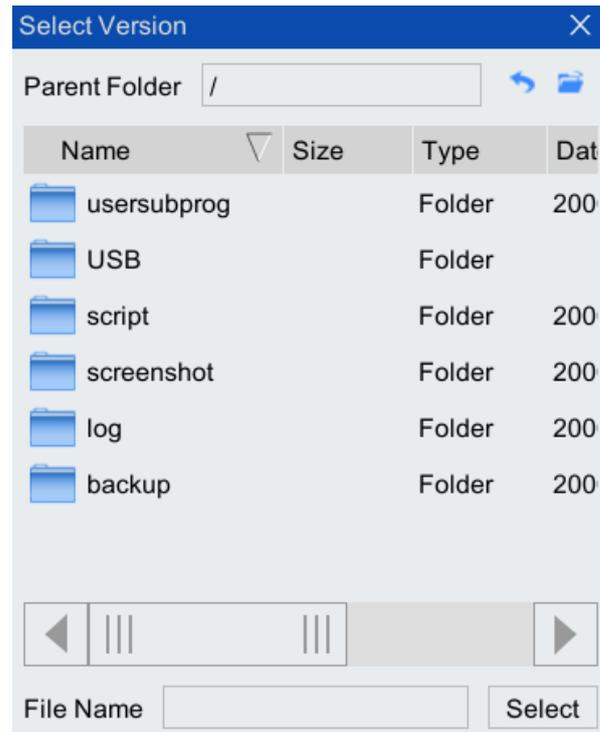

Figure 8-36 "Version Update" interface
- Step1. On the main interface of the teach pendant, click "System > System and Update > Software Update" option, the "Select Version" list box pops up, as shown in Figure 8-36.